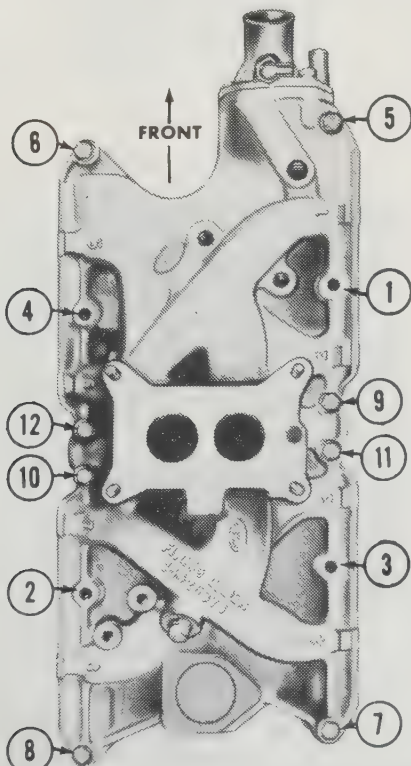

Fig. 13.7 Intake manifold bolt tightening sequence
- 38 Refit the manifold bolts and tighten to the specified torque in the sequence shown (Fig. 13.7).